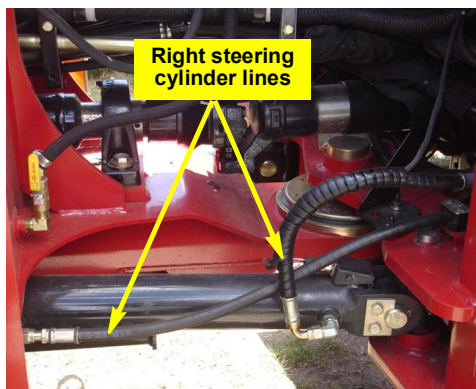

Figure 7a: Right steering cylinder lines
- a. Locate the right side steering cylinder lines in the middle of the tractor (Figure 7a) and disconnect them.